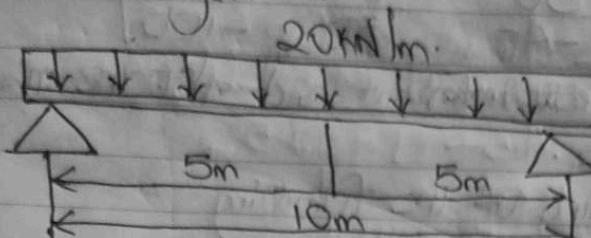

Figure 1
- Q) Determine the maximum deflection and the slope of the structure in figure 1